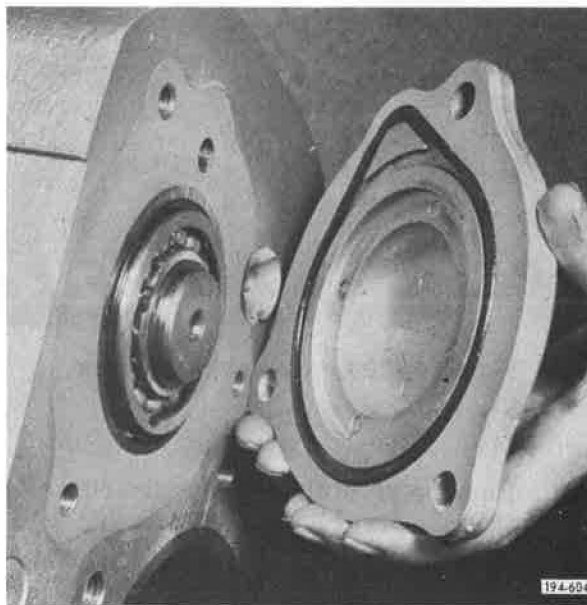

Figure 5-714. Removing Bearing Cover
2. Remove rear countershaft rear bearing cover. See **Figure 5-714**.